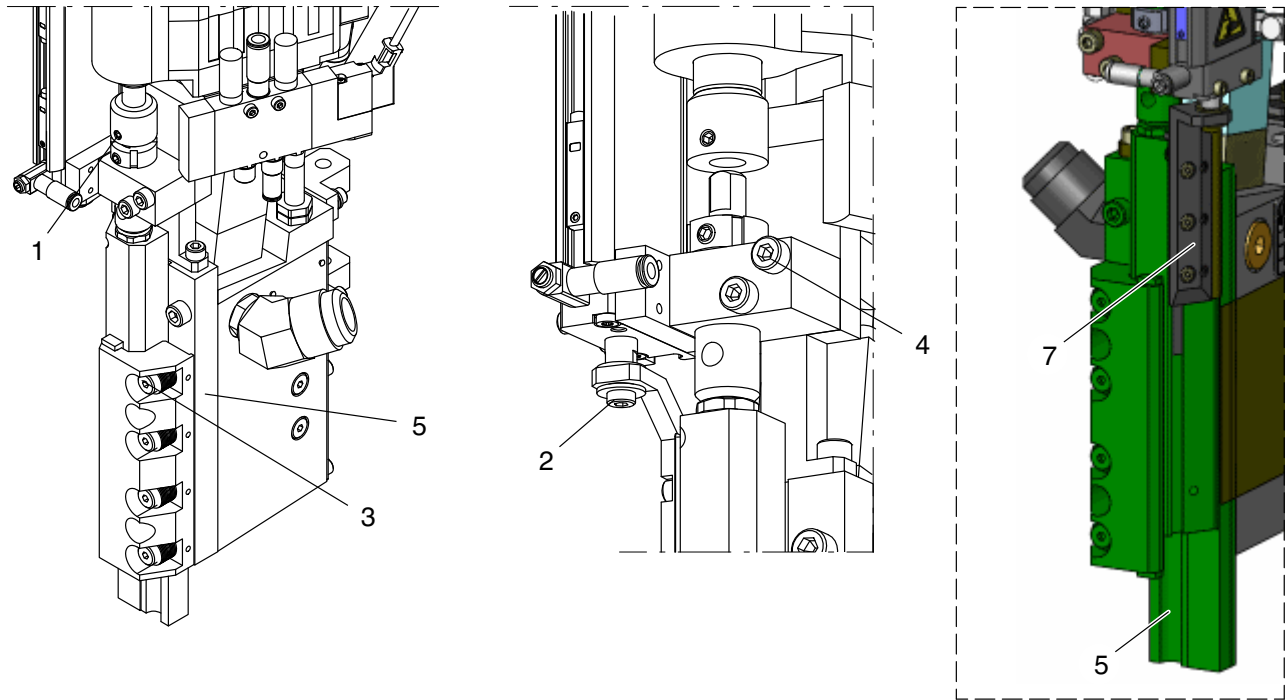

Fig. 21
2. Release the set screw (1, Fig. 21) and slide the shaft up to expose the end of the spindle.
3. Release the hex bolt (2) to detach the nozzle closure (7).
4. In the first step, loosen all four screws (3) on the clamp only a few revolutions. They are secured to prevent them from falling out. Then unscrew them completely.
5. Release the two fixing screws (4) and detach the assembly from the applicator.